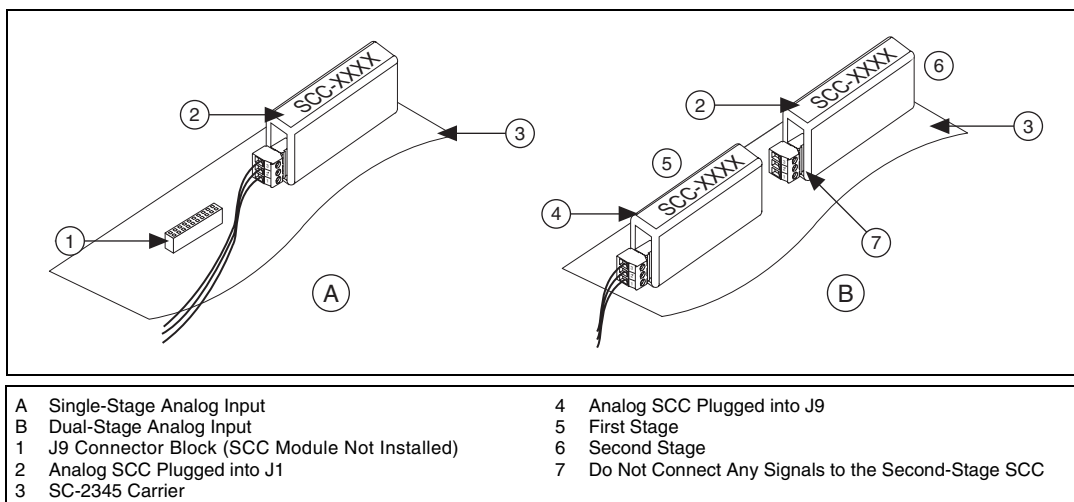

Figure 16. Single- and Dual-Stage Analog Input SCC Configuration for SC-2345 Connector Block Socket
For dual-stage analog input conditioning, plug the first-stage SCC module into any socket J(X+9) and plug the second-stage SCC module into the corresponding paired socket, J(X+1). Connect the input signals to the first-stage SCC module, and none to the second-stage SCC. The SC-2345 connects the output signals of the first-stage SCC modules to the inputs of the second-stage SCC modules and routes the outputs of the second-stage modules to DAQ device channels AI (X) and AI (X+8). An example of dual-stage conditioning is a voltage attenuator SCC module followed by a lowpass filter SCC module. Figure 16 shows how to install analog input modules on the SC-2345 carrier.